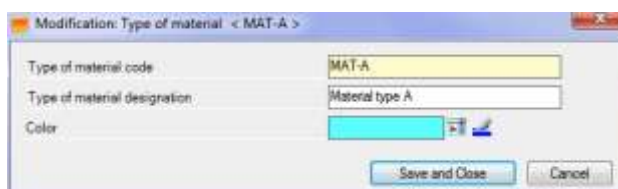

Figure 28 – The Technical element card
- C Colors can play a significant role in the layout of the schedule. Depending upon the display modes configured by the administrator, colors can focus on such or such piece of data. When you create technical element (Figure 28, page 36), it is automatically or manually assigned a color, according to the administrator's setting. Clicking this button displays this window. ↓